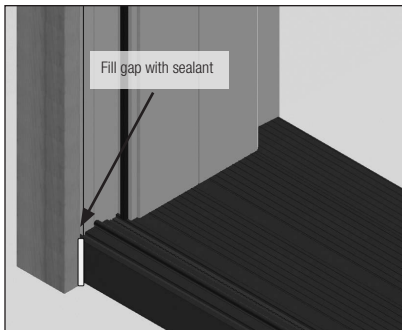

FIG. 11
- A) On each end of the sill, fill the small gap between the sill nosing and the interior wood trim on the interior of the side jamb with sealant. (Fig. 11)